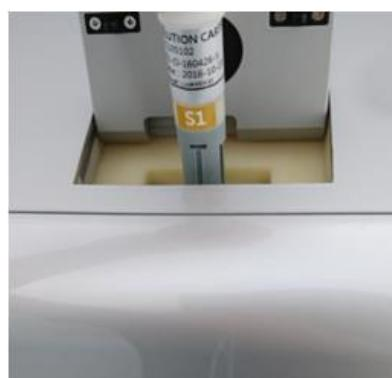

Figure 14 The guiding groove of the cartridge shall face the front
3. Ensure that the guiding groove of the cartridge is facing the front (Figure 14).